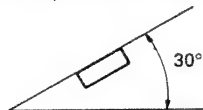

Fig. 1
- If installation angle exceeds 30° from horizontal, the unit might not give its optimum performance. (Fig. 1)